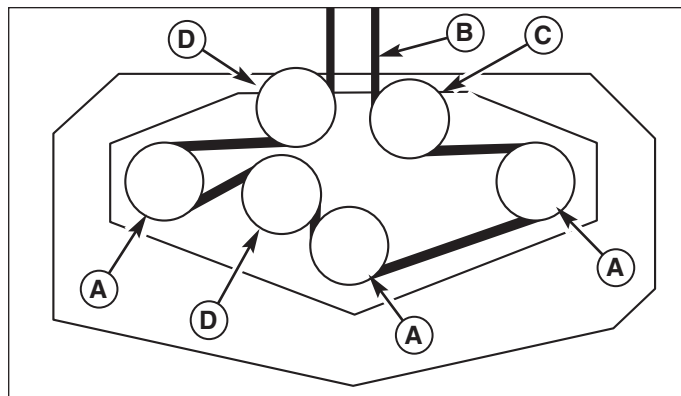

Figure 20. Mower PTO Belt Routing
3. Make sure the V-side of the belt runs in the pulley grooves (Figures 20).